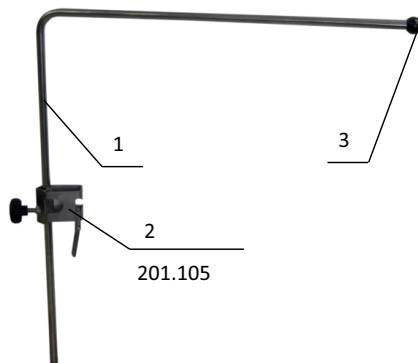

Figure 1. Anesthesia screen.
1. **Anesthesia screen** (a screen for anesthesia) (Figure 1). Made of stainless steel, adjustable in height. For fastening to the guide rails of the table, it is equipped with a radial clamp 201.105.